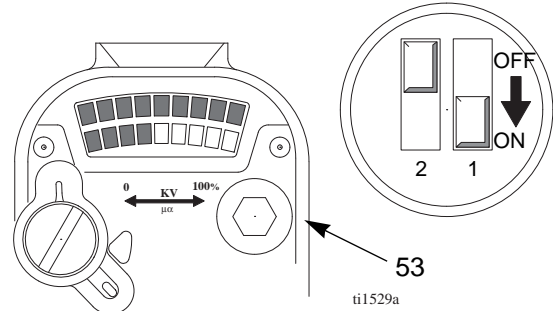

Fig. 16. Low Voltage Adjustment Switches
2. Remove the LO VOLTAGE adjustment plug (53). Set the desired voltage, using a small screwdriver to slide switches 1 and 2 ON or OFF, according to Table 4 . Also see FIG. 16..